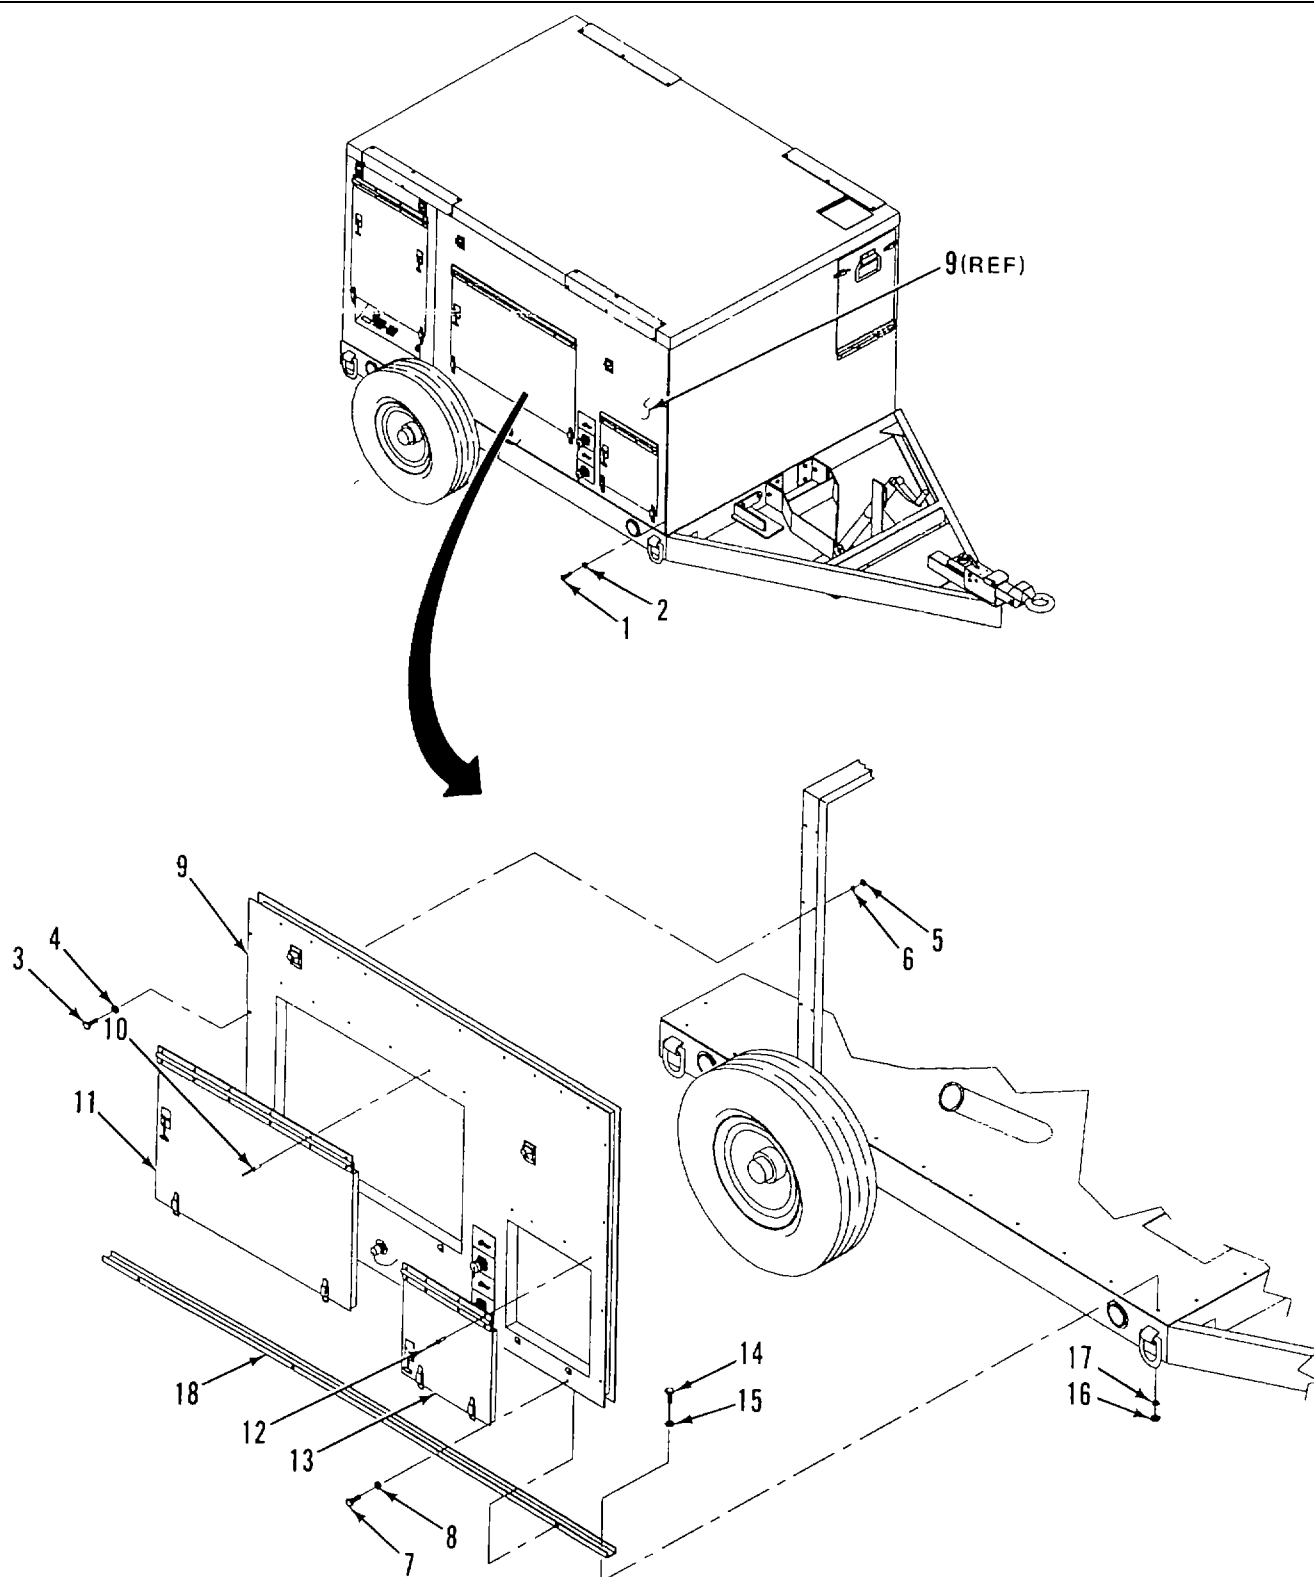

Figure 3-4. Right Panel
a. REMOVE. (Figure 3-4)
- (1) Remove bolts (1) and flat washers (2) at sides of right panel (9).
- (2) Remove bolts (3), flat washers (4), nuts (5), and flat washers (6).
- (3) Remove bolts (7), flat washers (8), and right panel (9).
- (4) Remove rivets (10) and engine access panel door (11) (para. 3-6).
- (5) Remove rivets (12) and air filter access panel door (13) (para. 3-6).
- (6) Remove bolts (14), flat washers (15), nuts (16), lockwasher (17), and right panel mounting bracket (18).